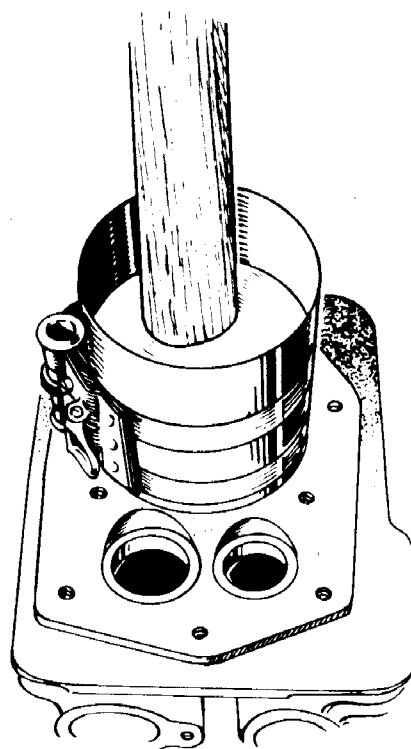

FIGURE 52. INSTALLING PISTON AND CONNECTING ROD
2. Lubricate the number one piston assembly and inside of the cylinder. Compress the rings with a ring compressor as shown in Figure 52.
4. Tap the piston down into the bore with the handle end of a hammer until the connecting rod is seated on the journal (Figure 52). Install the bearing cap on the rod. Install and tighten the nuts evenly in steps to the specified torques.